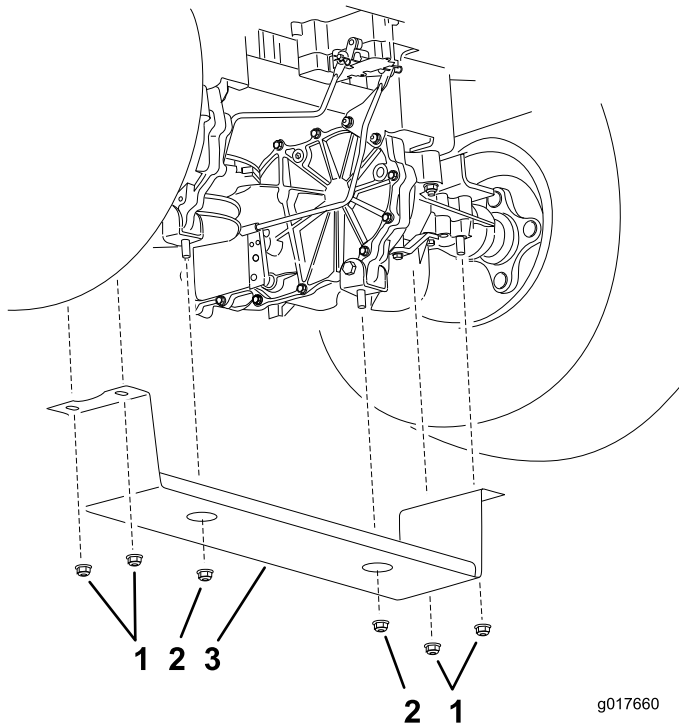

Figure 44
3. Remove the nuts holding the transaxle support in place (Figure 44).
4. Install the transaxle support. Refer to Figure 44 for the correct torque values for the nuts and bolts.
Note: Ensure the transaxle support is installed (Figure 44).